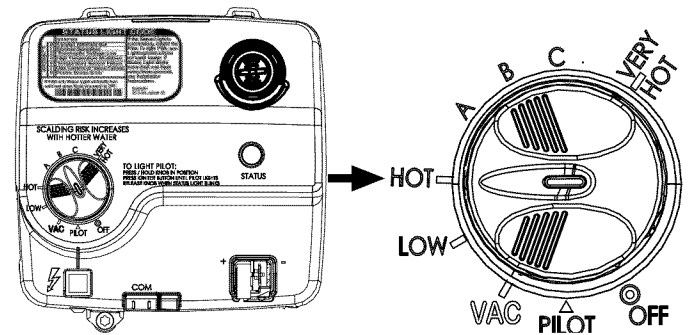

**FIGURE 24A.**
**HOTTER WATER CAN SCALD:** Water heaters are intended to produce hot water. Water heated to a temperature which will satisfy space heating, clothes washing, dish washing, and other sanitizing needs can scald and permanently injure you upon contact. Some people are more likely to be permanently injured by hot water than others. These include the elderly, children, the infirm, or physically/mentally handicapped. If anyone using hot water in your home fits into one of these groups or if there is a local code or state law requiring a certain temperature water at the hot water tap, then you must take special precautions. In addition to using the lowest possible temperature setting that satisfies your hot water needs, a means such as a mixing valve should be used at the hot water taps used by these people or at the water heater. Mixing valves are available at plumbing supply or hardware stores. See Figure 18. Follow manufacturer's instructions for installation of the valves. Before changing the factory setting on the gas control valve/thermostat, see Figure 24A. Using the lowest hot water temperature that meets your needs will also provide the most energy efficient operation of the water heater.
The gas control valve/thermostat is adjusted to the pilot position when it is shipped from the factory. Water temperature can be regulated by moving the temperature dial to the preferred setting. The preferred starting point is 120°F at the "HOT" setting. Align the knob with the desired water temperature as shown in Figure 24A. There is a hot water scald potential if the gas control valve/thermostat is set too high.